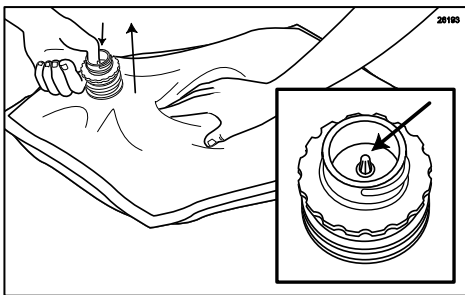

Figure 43
- Lifting up with the bag fitment, press the center pin of the bag fitment valve and gently press on the bag to release any excess air. (See Figure 43.)